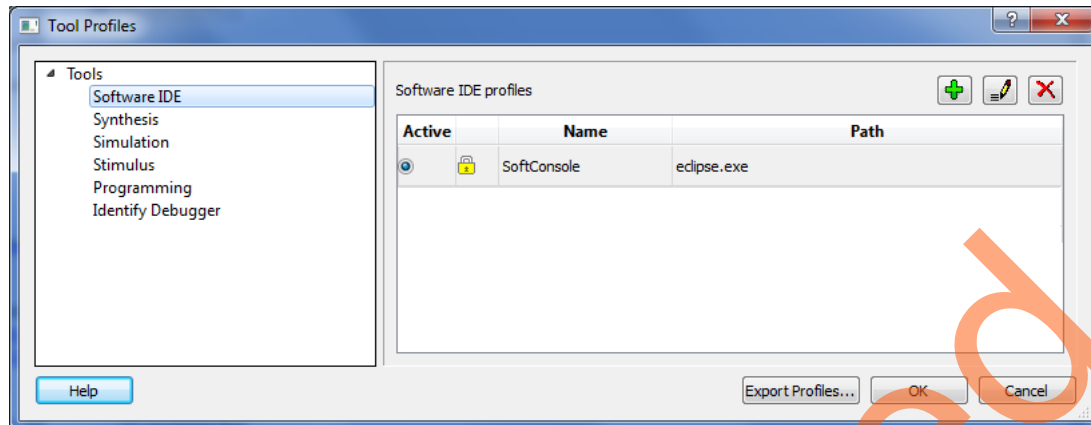

Figure 5 • Tool Profiles
4. Clicking **Edit Tool Profiles** displays the Tool Profiles window as shown in Figure 5. Check the below tool settings: